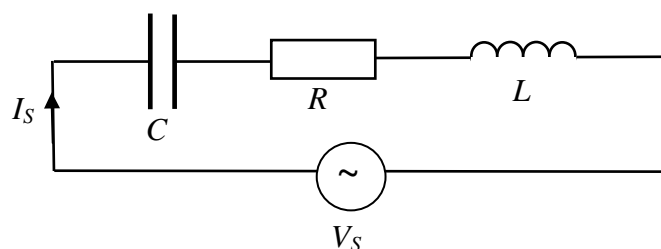

Figure 2.1
- a. An inductance, L , capacitance, C , and resistance, R , are connected to form a series resonant circuit as shown in Figure 2.1.
- (i) Work out the impedance of the circuit shown in Figure 2.1, state the condition for resonance, and hence show that the resonant frequency of the circuit, f_r , is: